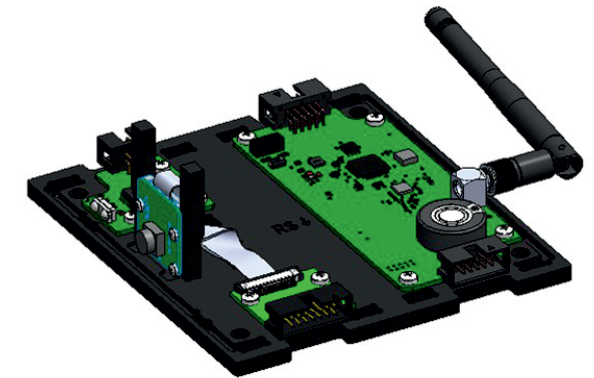

Fig. 28: Mounting the camera on the module base plate
5) Mount the bracket with the camera on the bottom base plate. To do that, align bracket protrusions with holes in the base plate and latch them. Place the adapter board to the bottom base plate and secure it using M2x6 cylindrical-head screws. A ribbon cable is used to connect the camera with the adapter board (Fig. 28):